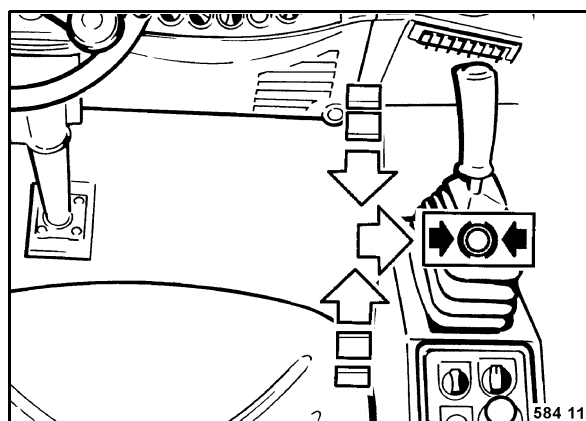

Fig. 58
- Return the travel lever (Fig. 58) slowly to "neutral"-position and engage it to the right in braking position.